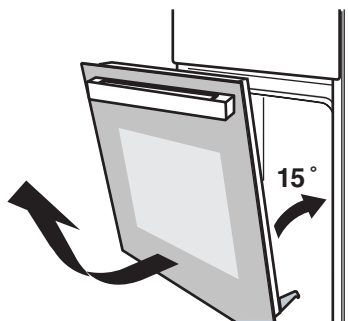

Figure 2
- Close the door to an angle approximately 15° . Lift up and slowly pull the door out from the oven. (Figure 2)